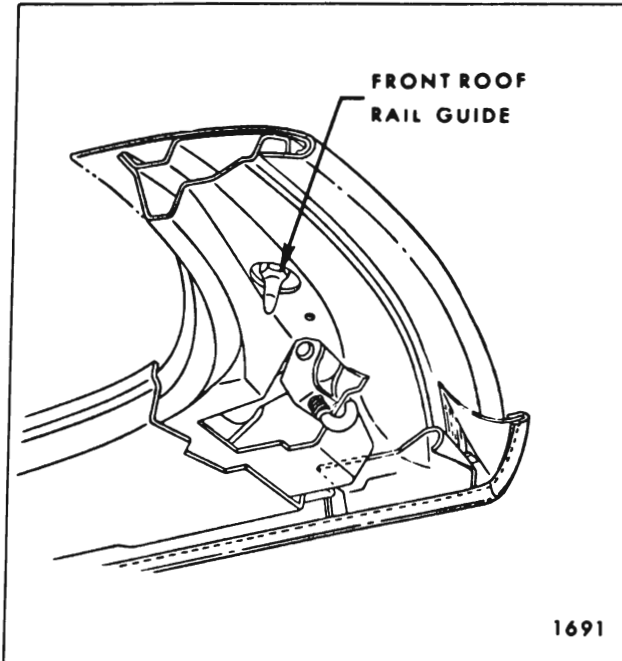

Fig. 13-79 — Guide Adjustment
2. Loosen guide sufficiently to permit adjustment (Fig. 13-79).